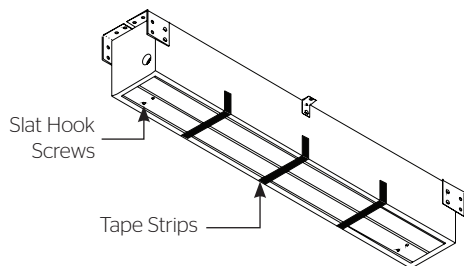

Figure 1
3. If you are going to cover screen door with paneling or other materials, allow access (suitable holes or plug) to slat hook screws (4) when servicing (Fig. 1).